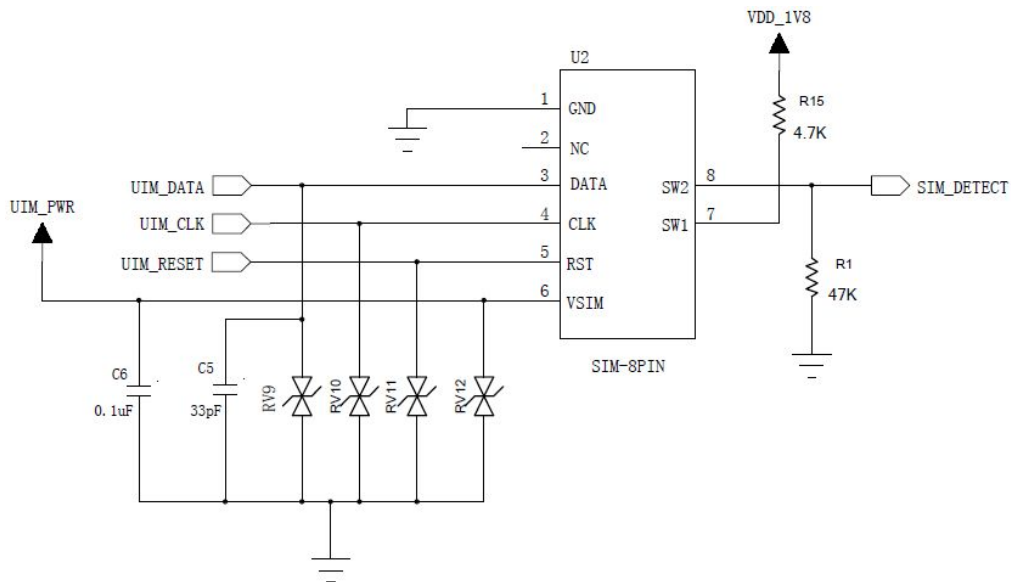

Figure 5-8 Normally Open SIM Connector Reference Design
2) For normally open SIM connector circuit, as shown in Figure 5-8. SIM\_DETECT connects Pin8 (SW2) of U2, and it also be pulled low by 47K ohms resistor. Pin 7 is pulled high by 4.7K ohms resistor. When no SIM card, SW2 and SW1 disconnect, SW2 is low. After SIM inserted, SW2 and SW1 short, SIM\_DETECT is pulled high.